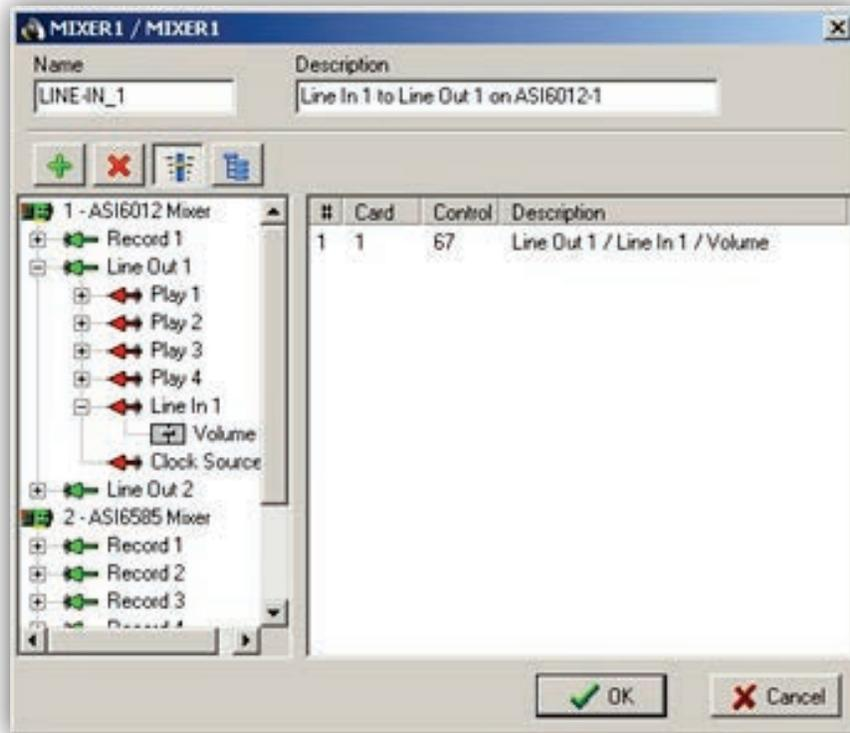

Figure 4-31. Mixer Editor with an AudioScience 6012 Model's Line In 1 Pass-through Volume Control Selected
5. To remove a control from the mixer's configuration, click the control in the list on the right (see Figure 4-31), and then click the **Delete** button